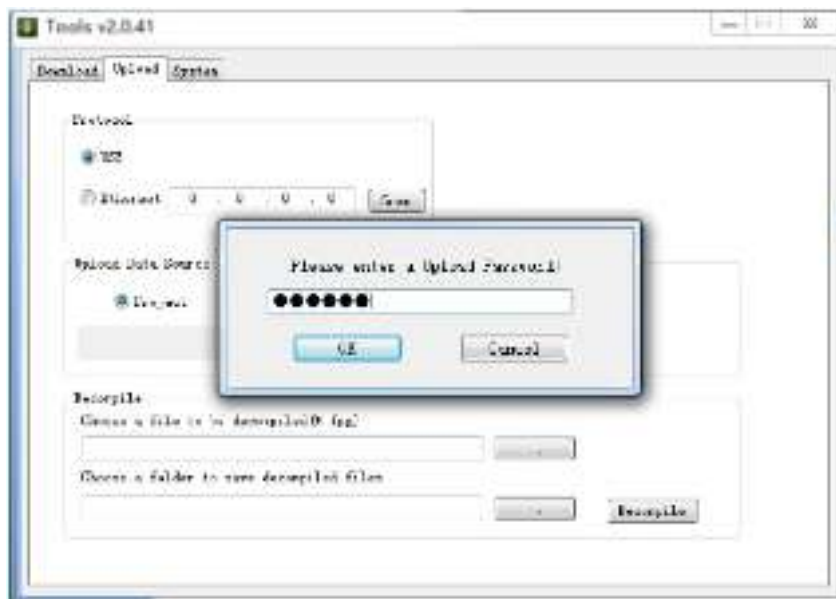
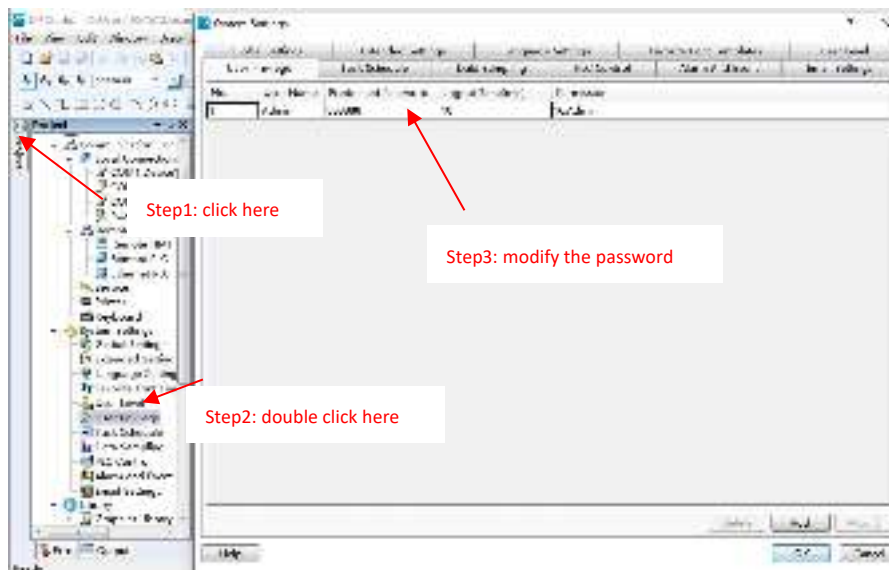

Fig. 21
Fig. 22
②Enter the password for uploading, as shown in Fig. 21. The default password is “888888” which can be modified in “Global Settings”, as shown in Fig. 22.